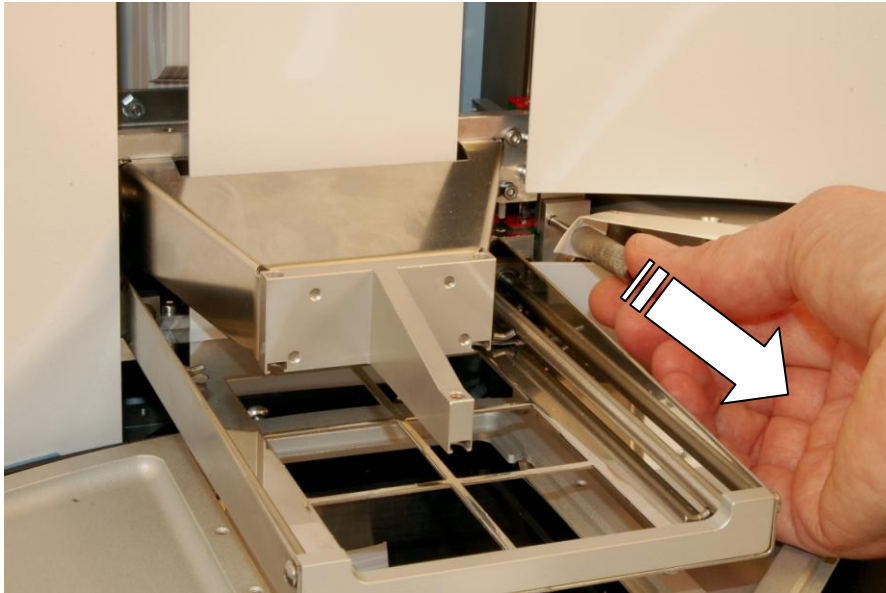

Figure 4. Tip comb holder transport lock removed
2. Remove the transport lock by pulling it out of the hole and store it for future relocation (Figure 4). When relocating the instrument, refer to “How to refit the transport lock of the tip comb holder” in the user manual.
Note! Keep the transport locks (Figure 4 and Figure 6) for future transportation of the instrument.